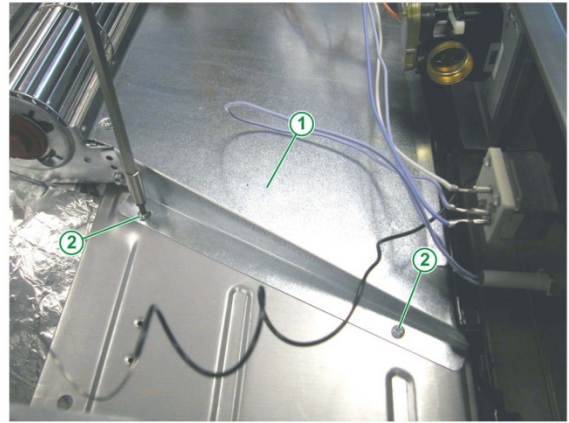

Fig. 16
17. Fix the new sheet metal controls protection together with 4 4.2x8mm self-tapping screws (see Fig. 16 and 17).